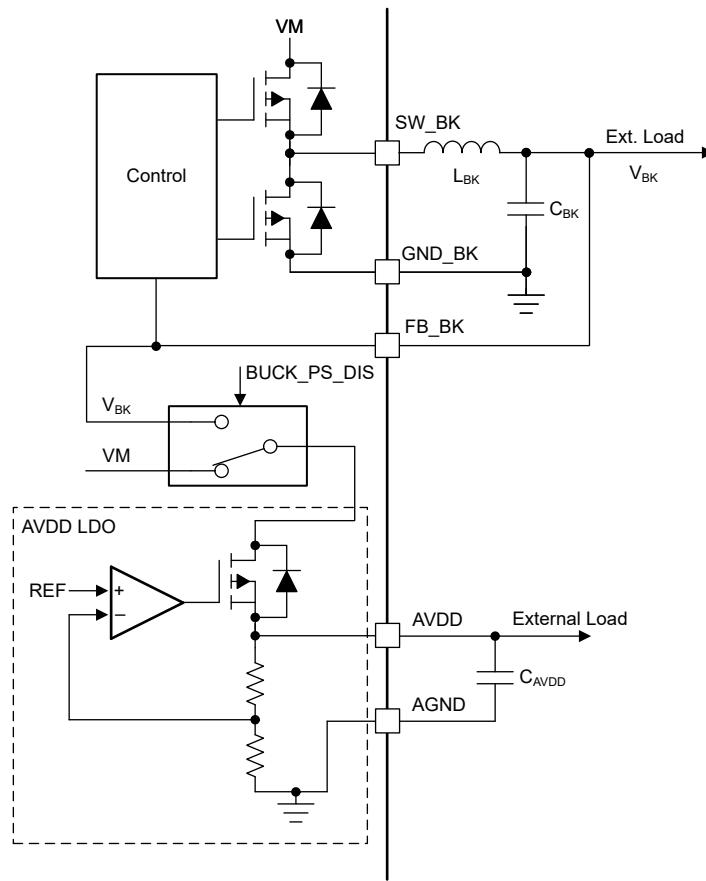

Figure 6-5. AVDD Power Sequencing from Mixed Mode Buck Regulator
The AVDD LDO has an option of using the power supply from mixed mode buck regulator to reduce the device power dissipation. The power sequencing mode allows on-the-fly changeover of AVDD LDO input from DC mains (VM) to buck output (V_BK) as shown in Figure 6-5. This sequencing can be configured through the BUCK_PS_DIS bit. Power sequencing is supported only when buck output voltage is set to 5-V or 5.7-V.